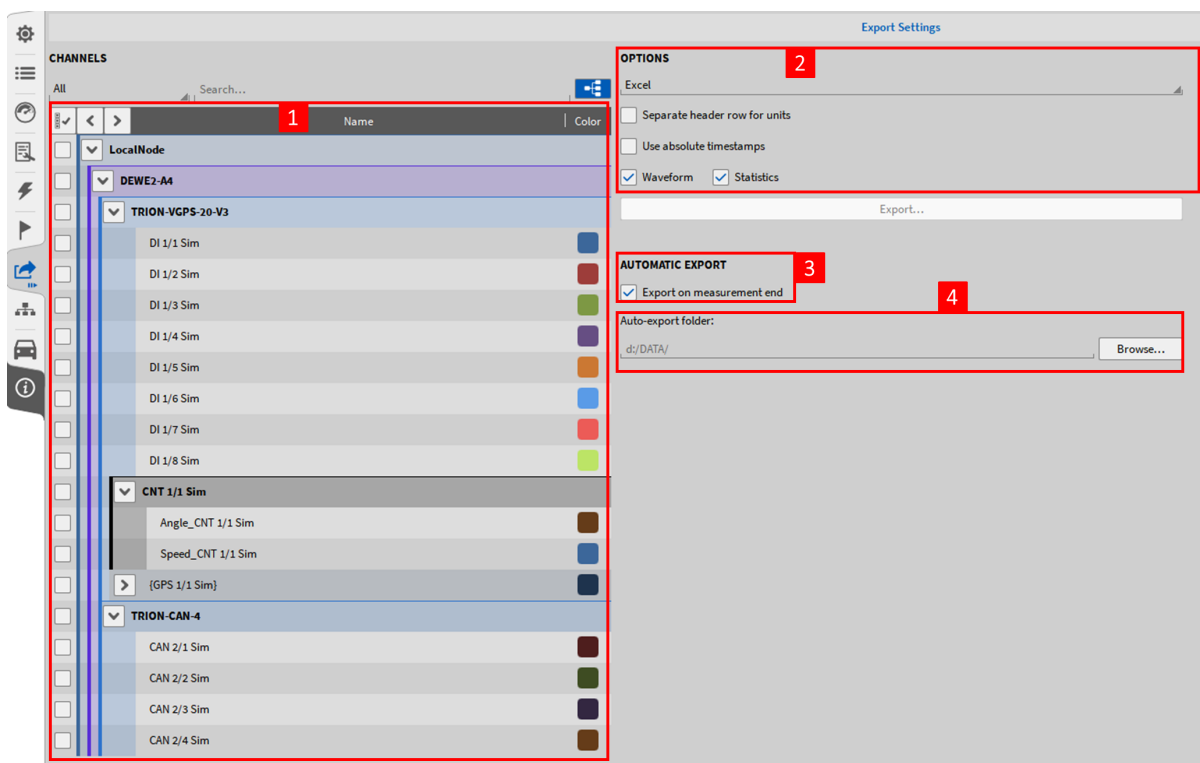

Fig. 11.26: Export menu, Auto-export settings
- Open the Export menu and enlarge it to the full screen (see Fig. 11.26):
- Select either all or individual channels that shall be exported automatically after the measurement is finished (see ① in Fig. 11.26) by checking the certain checkboxes on the left-hand side
- Select the desired file format and its individual export options (see ② in Fig. 11.26).
- Check the checkbox *Export on measurement end* (see ③ in Fig. 11.26)
- Specify the desired directory the export files shall be stored to (see ④ in Fig. 11.26)